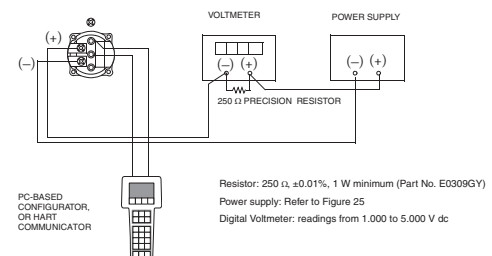

Figure 32. 4 to 20 mA Output Calibration Setup of Electronic Equipment
- If calibrating the output signal, also connect equipment as shown in Figure 32.
If calibrating the output signal, also connect equipment as shown in Figure 32.